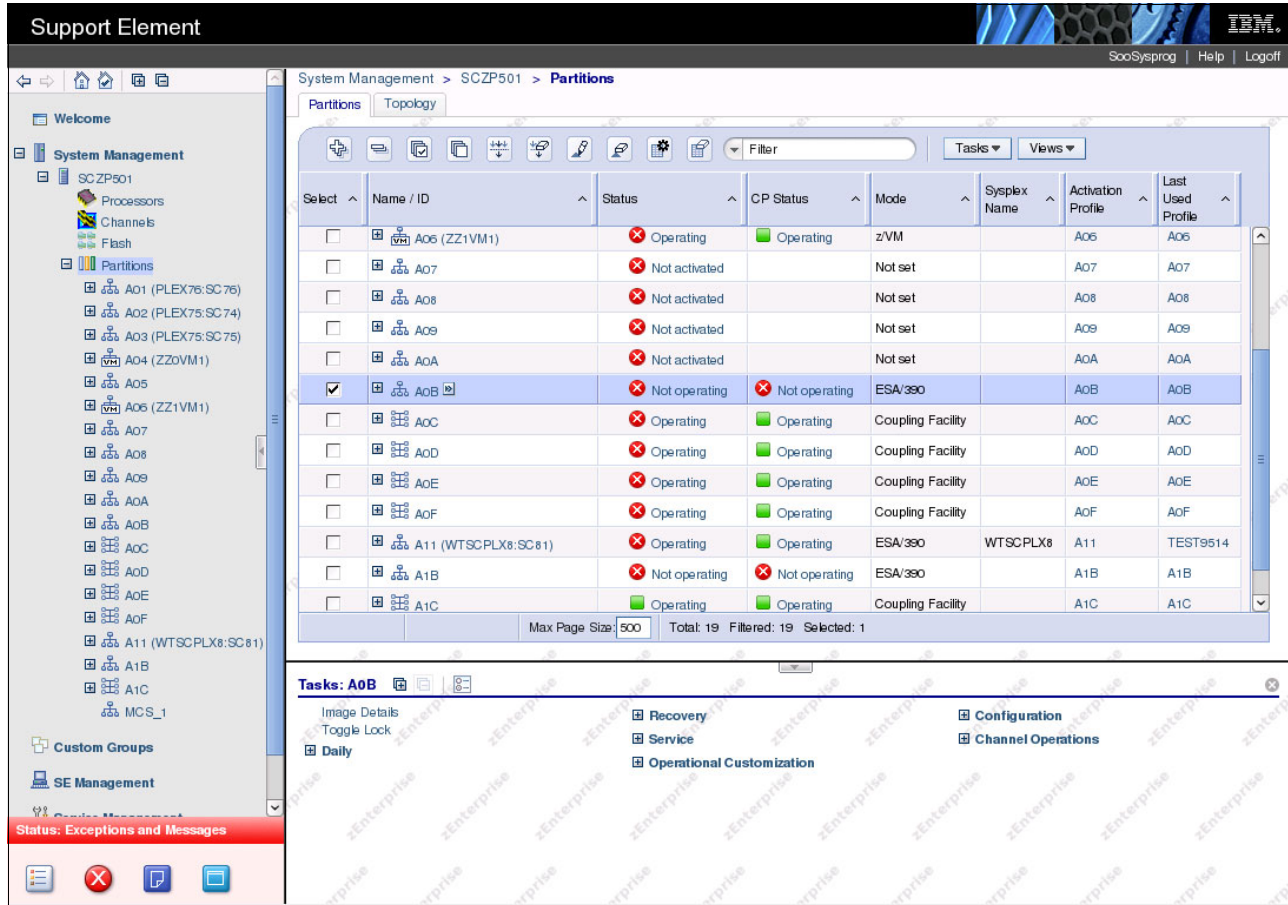

Figure 7-81 HMC - SAIOCP: partition selected for SAIOCP program load
8. Under Partitions, select the LPAR you want to use to run the Stand-Alone IOCP program (in this example, A0B) as shown in Figure 7-81.